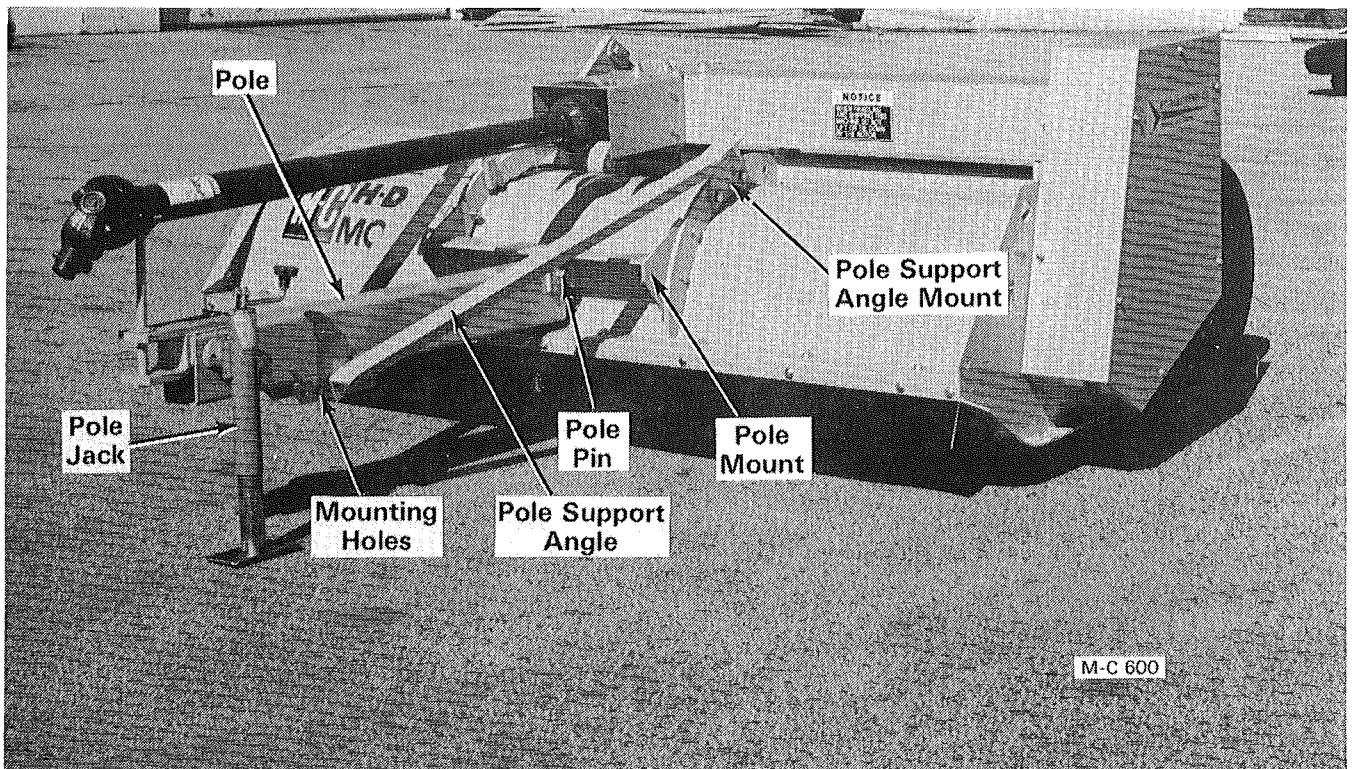

Figure 14 - Model 8 HDC
3. The mower must be kept as level as possible from front to rear to insure safe operation and proper mowing action. The mower can be leveled by moving the pole support angles forward or back. There are seven pole support angle mounting holes on each side of the pole and three mounting holes in each pole support angle mount, see Figure 14.